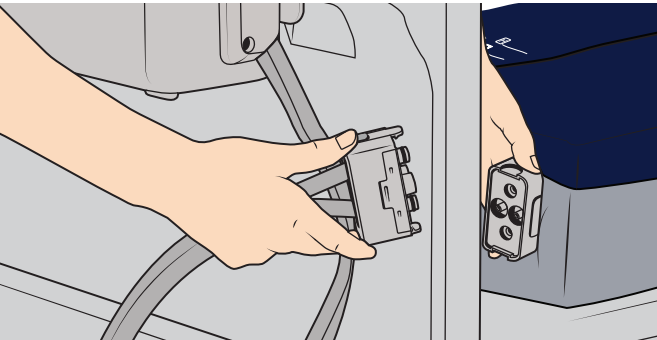

Figure 16
1. Locate the connector at the foot end of the mattress and pull it out of the pocket slightly. See Figure 16.